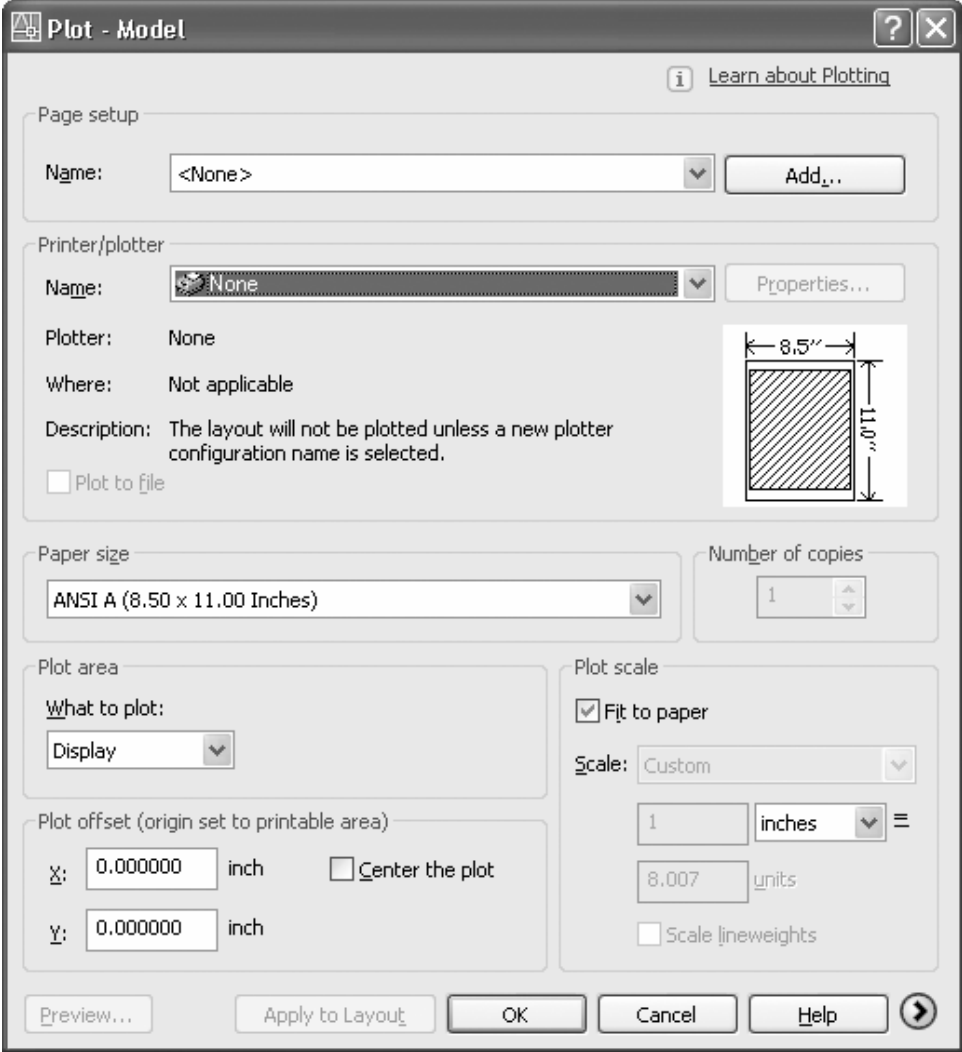

Figure 2-5.1 Plot Dialog Box; basic options
You are now in the *Plot Dialog* box. This is where you tell AutoCAD what printer or plotter to use, what scale and what size paper, to name a few examples (Figure 2-5.1).
- 4. Make the following adjustments: (Figure 2-5.1)
5. Click the “more options” arrow in the lower right corner of the *Plot* dialog box (Figure 2-5.1).